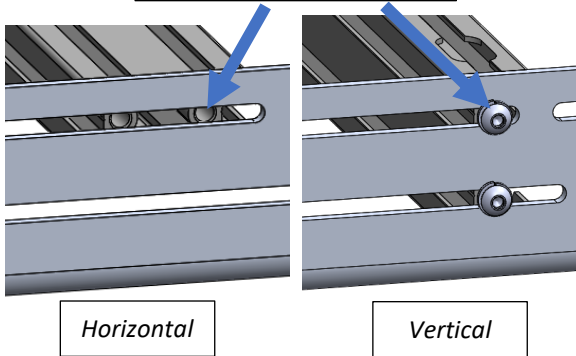

Figure 7: Crossbar Fastening to Side Rail Subassemblies
- Install at crossbars to connect the driver and passenger side rail subassemblies together. Use measurements of vents or flooring panels to correctly space crossbars. Crossbars can be installed **horizontally** (top slots) or **vertically** (top & bottom slots) of the side rails. Reference Figure 6 & Figure 7.